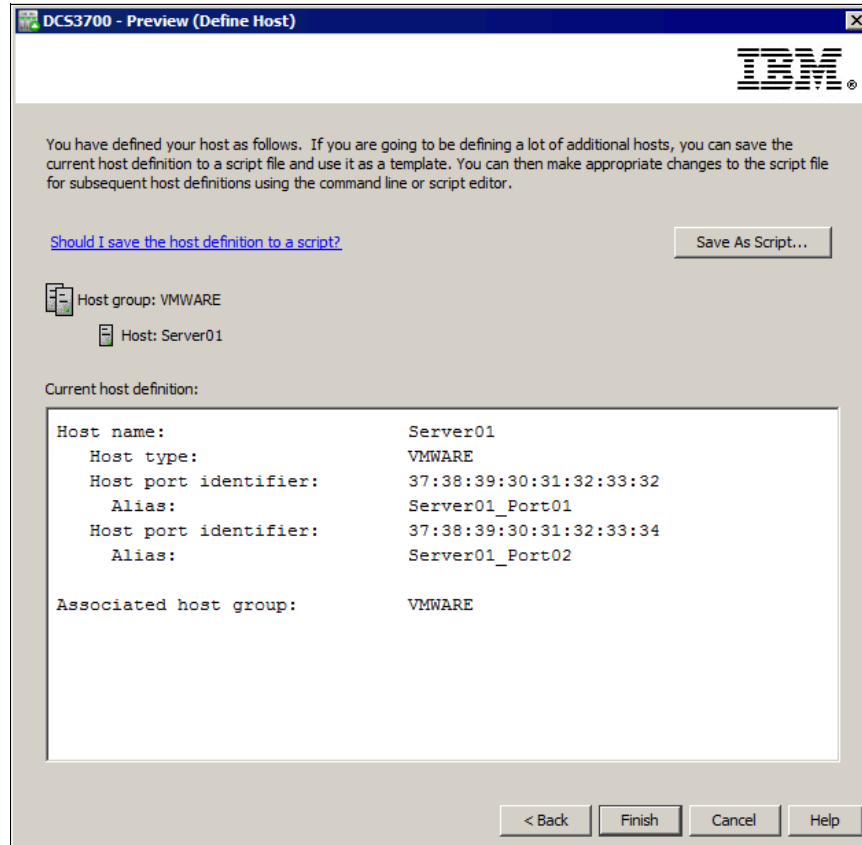

Figure 10-10 Define Host - new host definition preview
8. Finally, you have a chance to preview the new host definition (Figure 10-10). If all the selections are correct, click **Finish** to define the host. You can save the host definition as a script file for SMcli by clicking **Save As Script**. You can use this script command to easily change the host definition for mapping copies of logical drives in high-level scripts for disaster recovery.